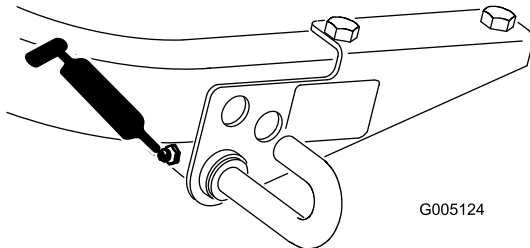

Figure 31
- Mow lockout lever (Figure 31)